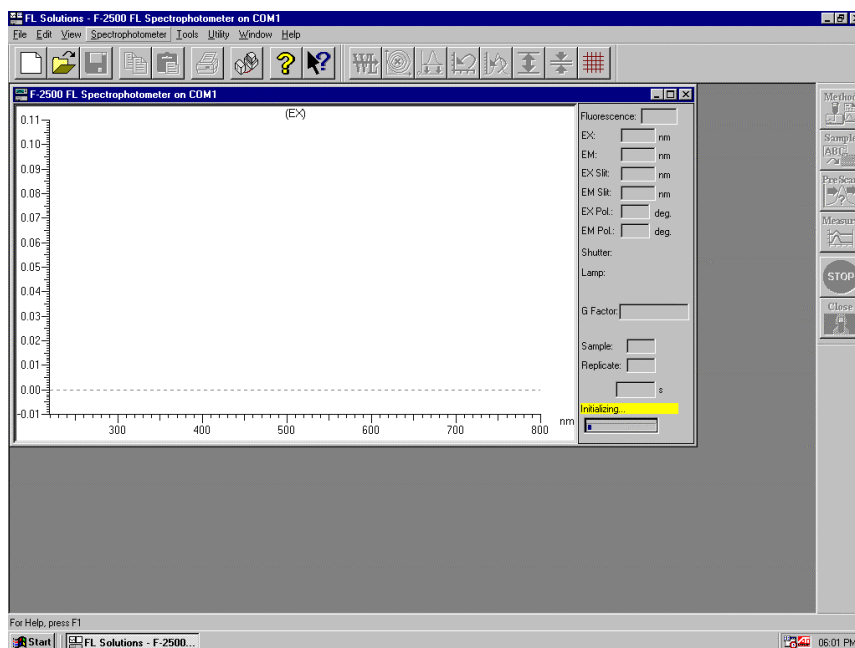

Fig. 1-8
- (5) A gauge of initialization is displayed as shown in Fig. 1-8, so its progress can be visually checked.
NOTE: If the spectrophotometer is not connected with the COM port or its power is not turned on, the monitor window ("F-2500 Fluorescence Spectrophotometer on COM1" indicated on its title bar) is not presented. In this status, functions for other than measurement are usable. For measurement, first confirm connection of the cable, and then turn on power supply of the spectrophotometer. Next, select the Instruments (I) command from the Tools (T) menu. When selecting and connecting the spectrophotometer, the window shown in Fig. 1-8 is presented.